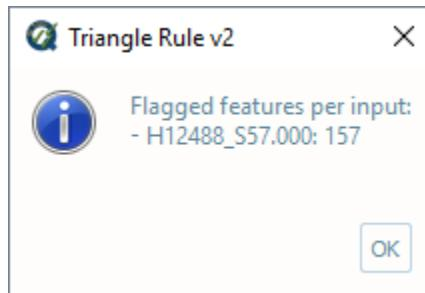

Fig. 2.63: Triangle rule's output message.
- After executing, the output window opens automatically, and the results are shown by textbox (Fig. 2.63).